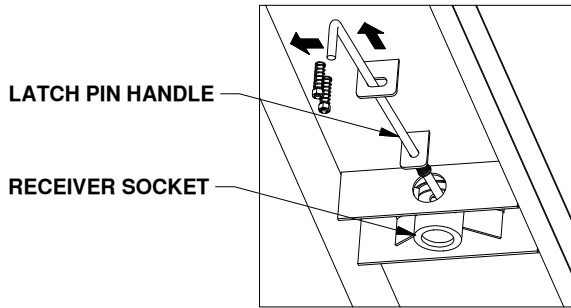

Figure D1: View under truck bed.
2. **Disengage latch.** Locate the latch pin handle of the gooseneck hitch located under the truck bed. Retract the latch pin handle all the way to disengage the pin from the ball, see Figure D1. Remove the 2-5/16" ball from the hitch receiver socket.